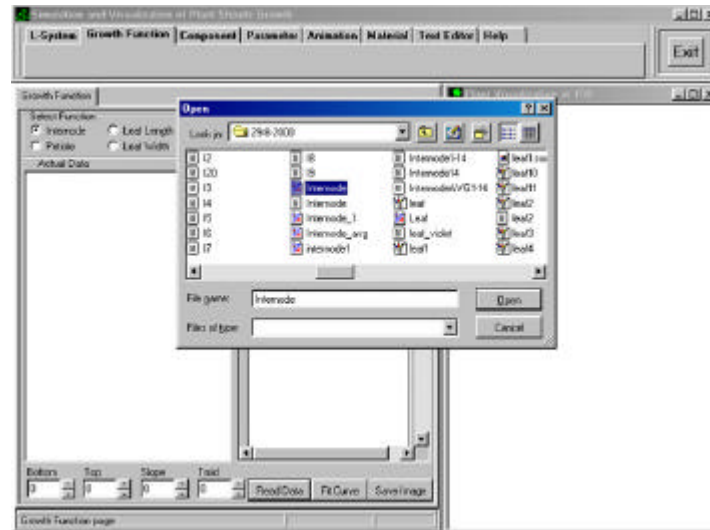

Figure C-6: Open the data file.
- The internode component will be selected and open the data as Figure C-6.